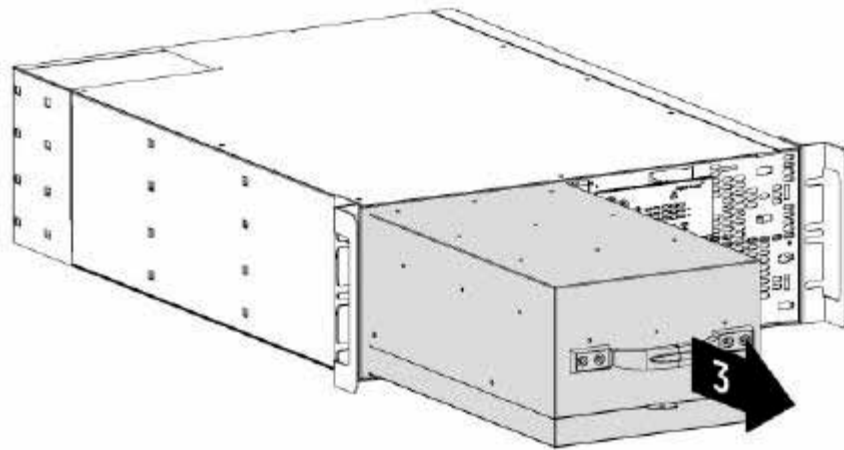

FIG 70 – BATTERY TRAY REMOVAL
3. Grab hold of the battery tray and slide it out. (FIG 70). Be careful during this operation and consider the weight of the battery.
3. Loosen the 3 mounting screws of the internal battery cover and remove it (FIG 70).
4. Loosen the 5 mounting screws of the power module cover and remove it (FIG 70).
5. Slide the power module out of the UPS cabinet (FIG 70).